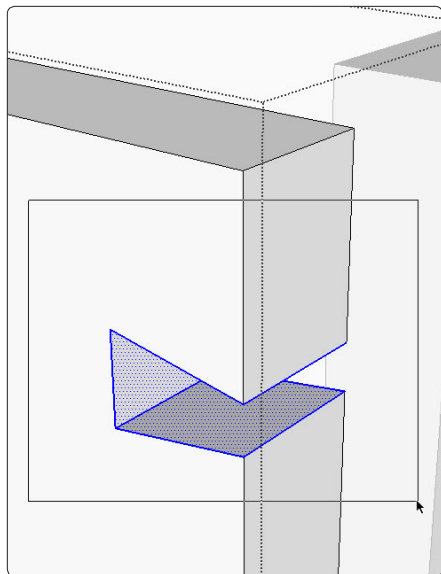

Figure 25. Carefully draw a left-to-right Selection Box to highlight the parts that define the pin space.
Step 7 Now you can copy the pin shape to all the other positions down the edge of the front component. Right-click on the component and choose Edit Component from the pop-up menu. Use the Select Tool to select all of the graphics for the pin by drawing a left-to-right Selection Box around it, as shown in Figure 25. Be sure the box is large enough to cover the graphics on the back face of the pin shape. (Use the Orbit Tool to be sure.) But don't make the box so big that it picks up other edges or faces in the front component.